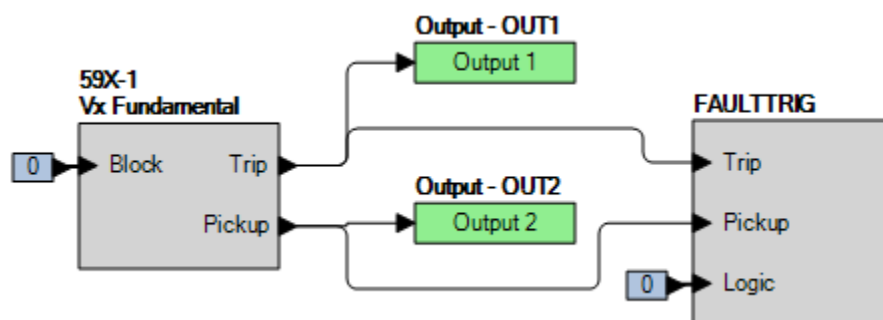

Figure 60-4. BESTlogicPlus Settings (Vx Fundamental Mode)
- Step 2: Use BESTCOMSP*Plus* to configure the BESTlogic*Plus* programmable logic shown in Figure 60-4.
- Step 4: Prepare to monitor the 59X-1 function operation. Operation can be verified by monitoring OUT2 (see Figure 60-4).